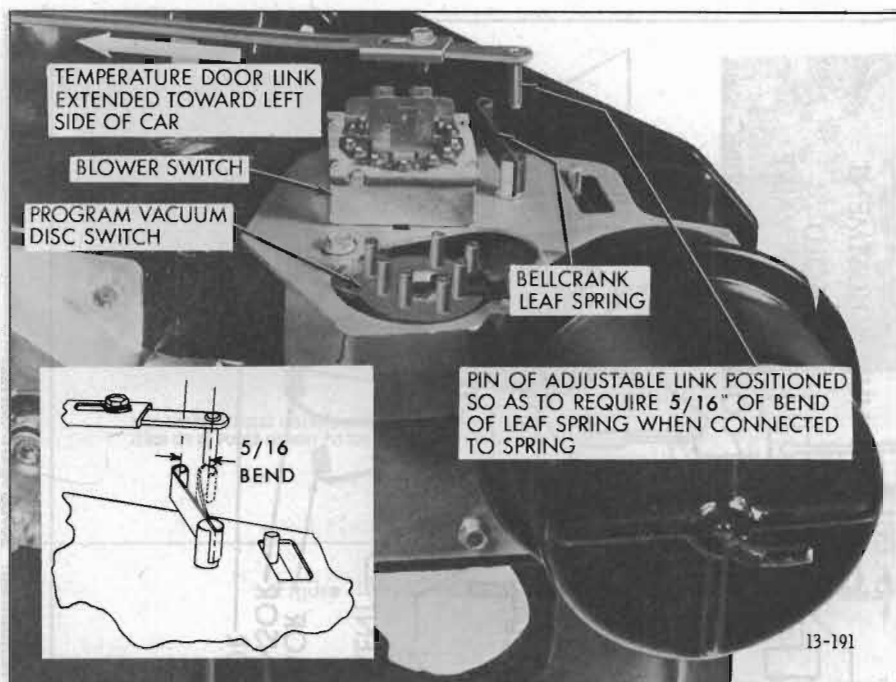

Figure 13-158—Checking Adjustment of Bell-crank Leaf Spring and Temperature Door Link (49000 Series)
5. Check temperature door link to insure that bell-crank leaf spring is stressed approximately 5/16 inch measured front centerline of link pin to centerline of leaf spring loop. Temperature door link should be positioned so that it is extended as far as possible toward the left side of the car (see Figure 13-158).